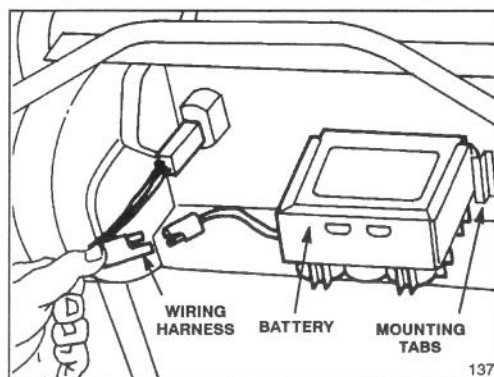

Figure 22
1. Stop engine and disconnect wire harness from battery terminal (Fig. 22).